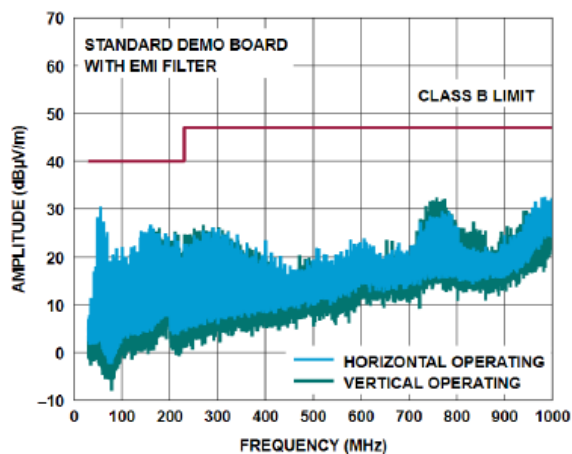

Figure 3. CISPR32 Radiated EMI Performance
- The demo board has an electromagnetic interference (EMI) filter installed by default between VIN terminal and the IC. The EMI performance of the board is shown in Figure 3. The red line in Radiated EMI Performance is the CISPR32